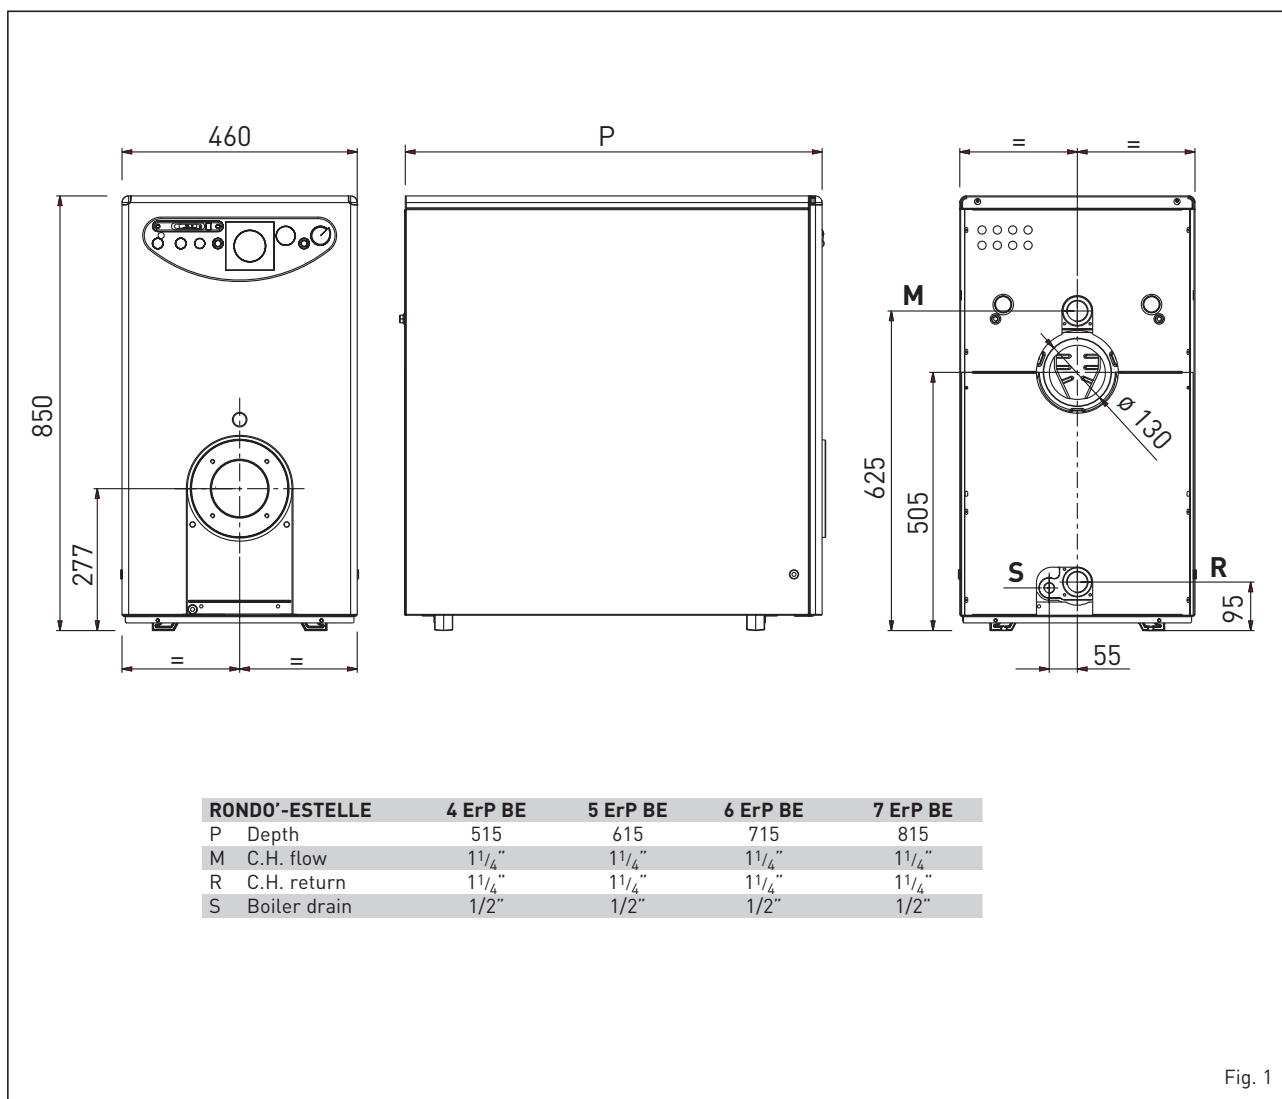

Fig. 1
1.2 DIMENSIONAL DETAILS (fig. 1)
1.2.1 Technical data plate (fig. 1/a)